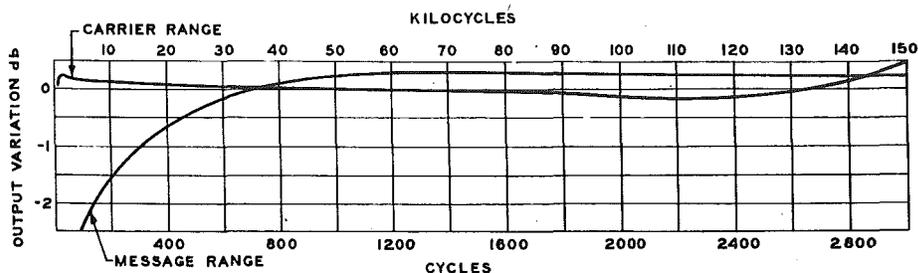

Fig. 8 - Representative Output - Frequency Characteristics.
4.09 A representative output frequency characteristic is shown in Fig. 8 for both the carrier and the message frequency range. The variation in output is approximately the same for either the maximum or minimum settings of the output control.